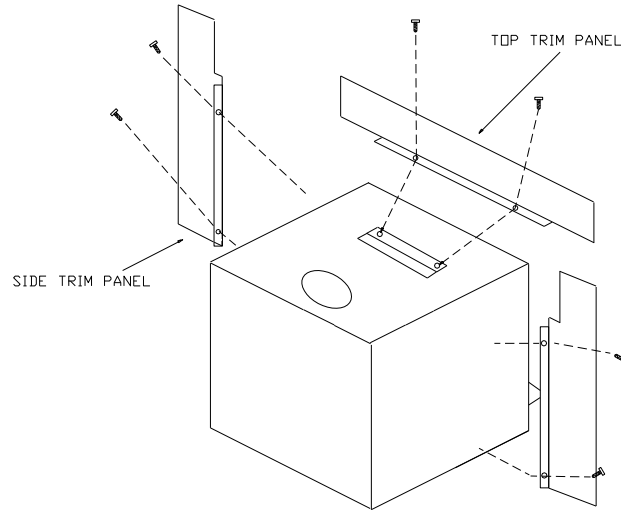

FIGURE 9 MOUNTING TRIM PANELS
1. Place side trim panels flat against face of fireplace. Mark inside edge of trim panel to make a vertical reference line. (See Figure 9.)
4. Mount side trim panels. (See Figure 9.)